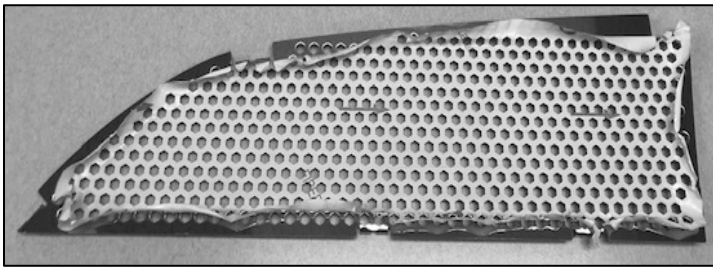

Fig. 1
3. Peel plastic from along edges to avoid pinching (Fig. 1).